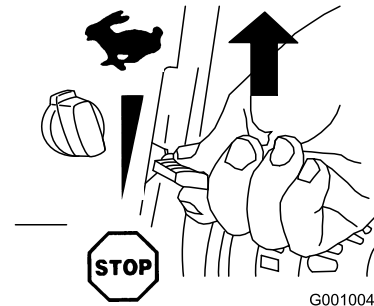

Figure 21
2. Move the throttle to the Fast position (Figure 21).